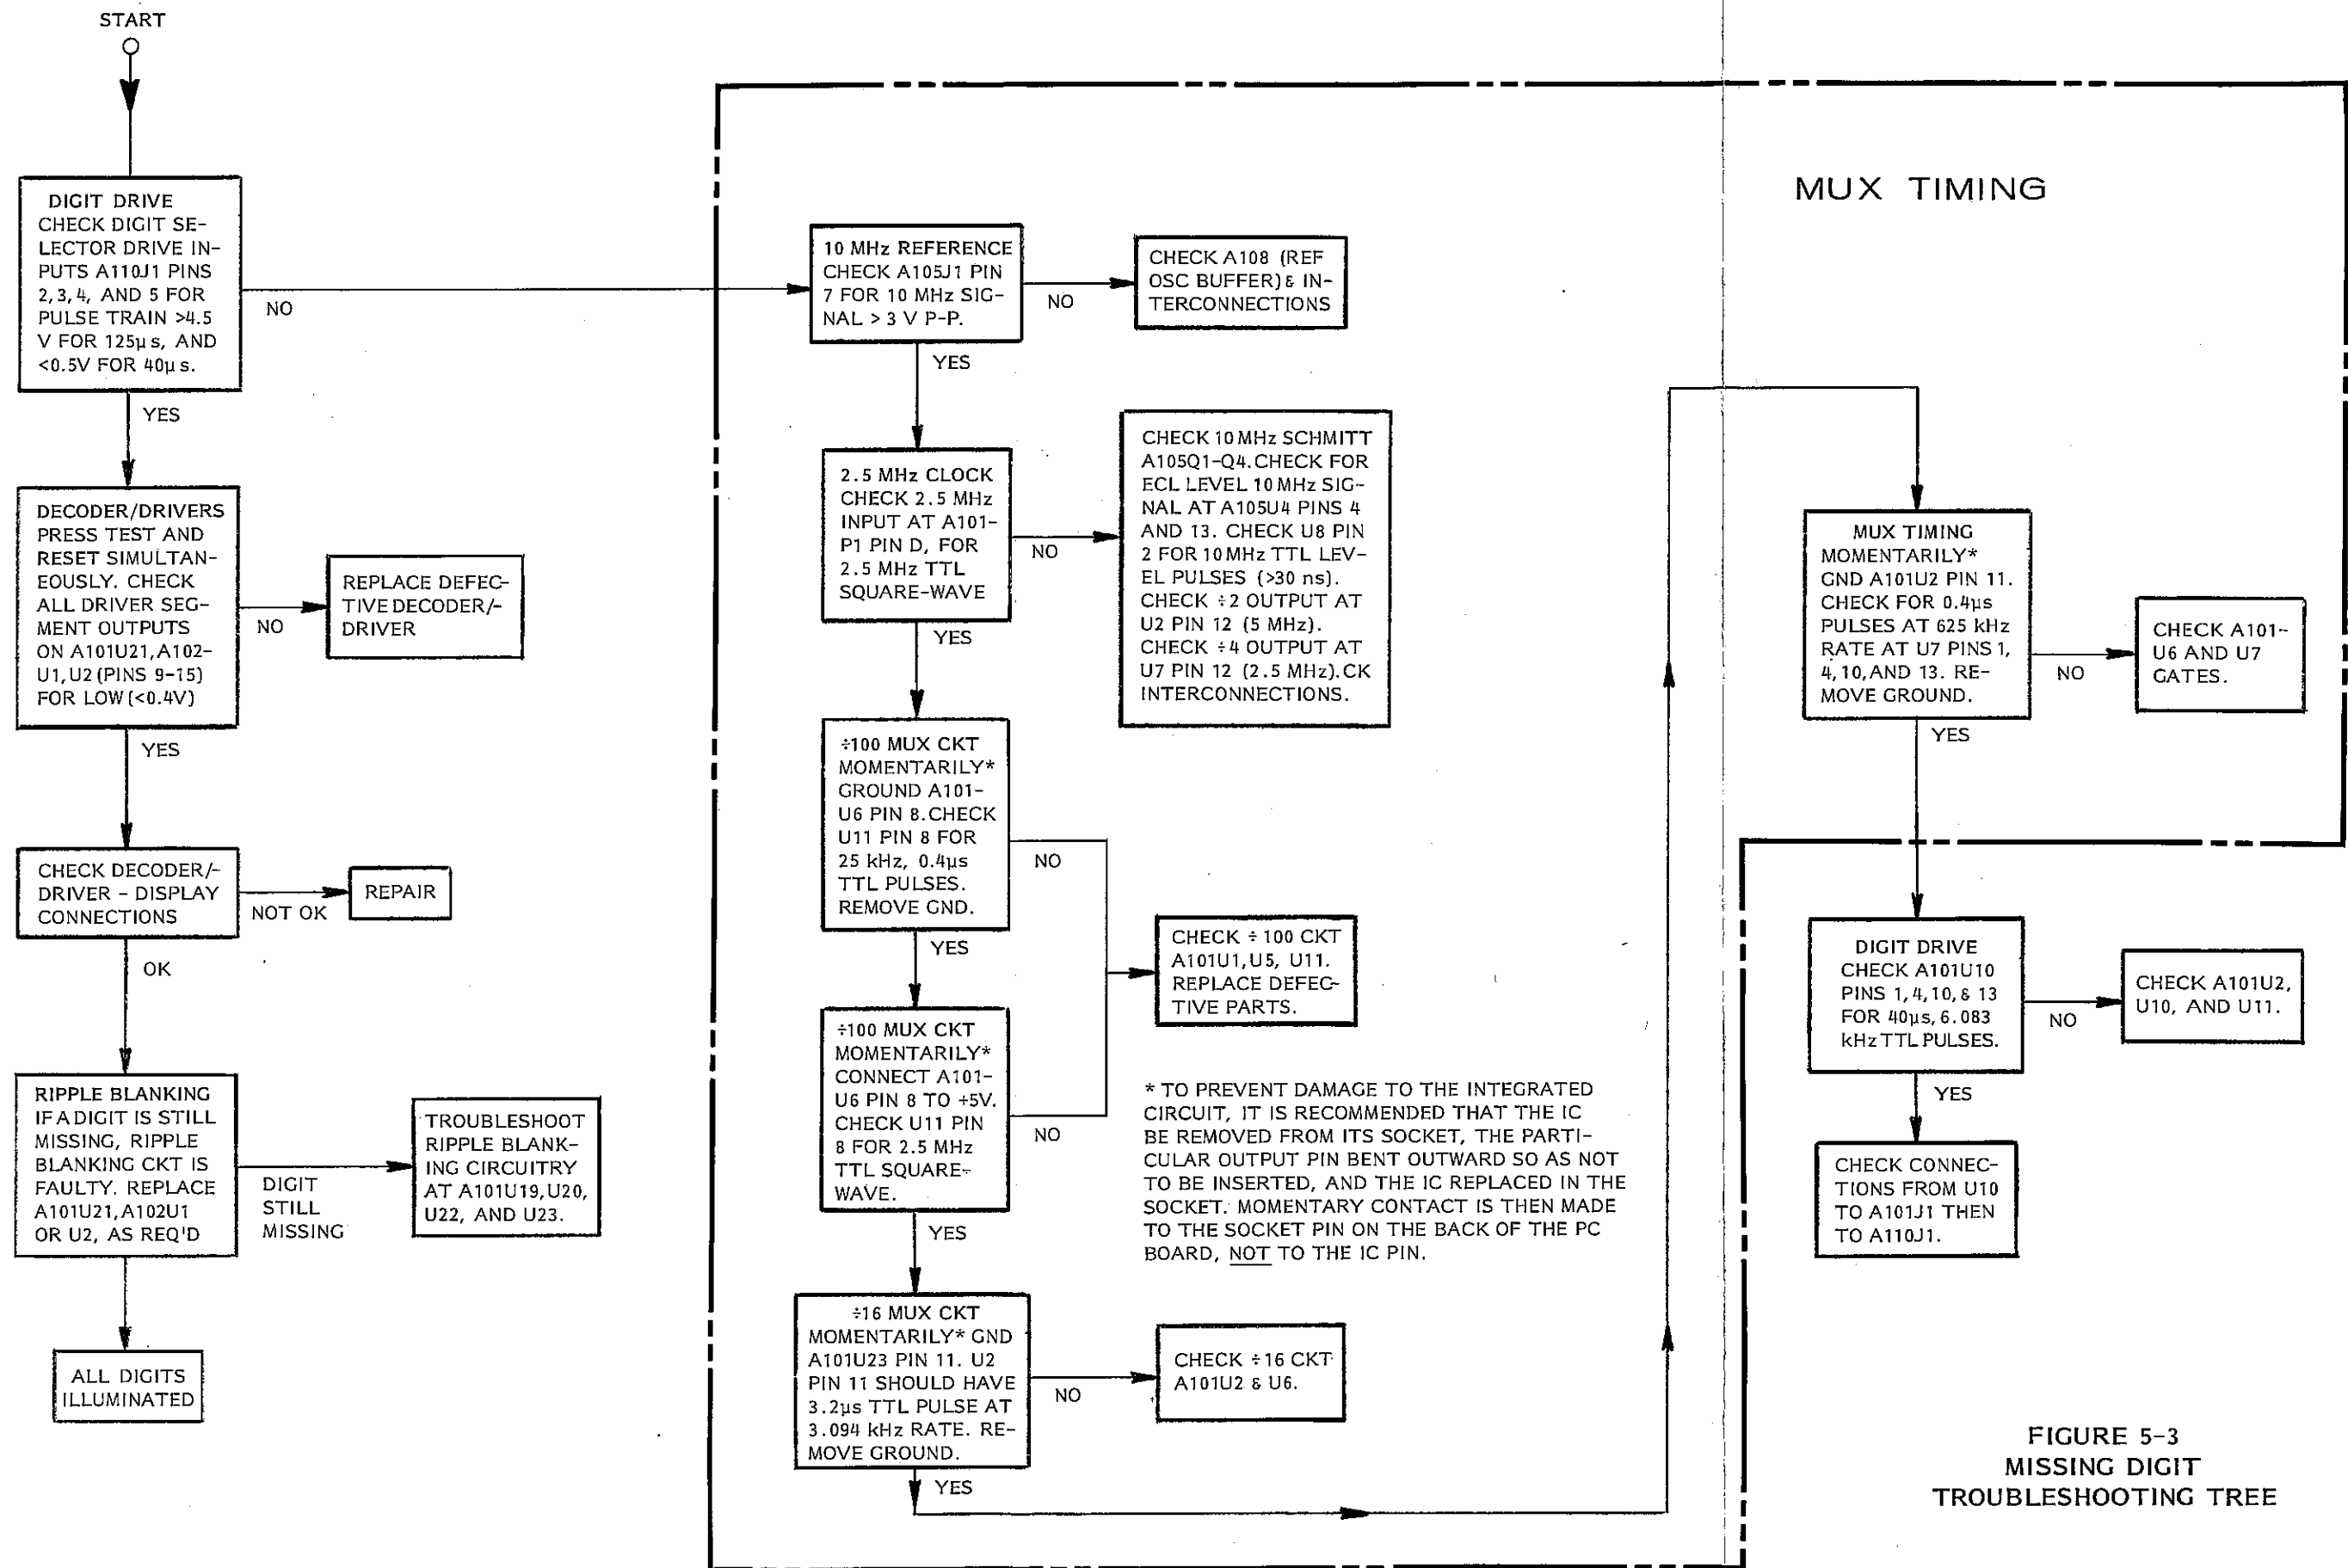
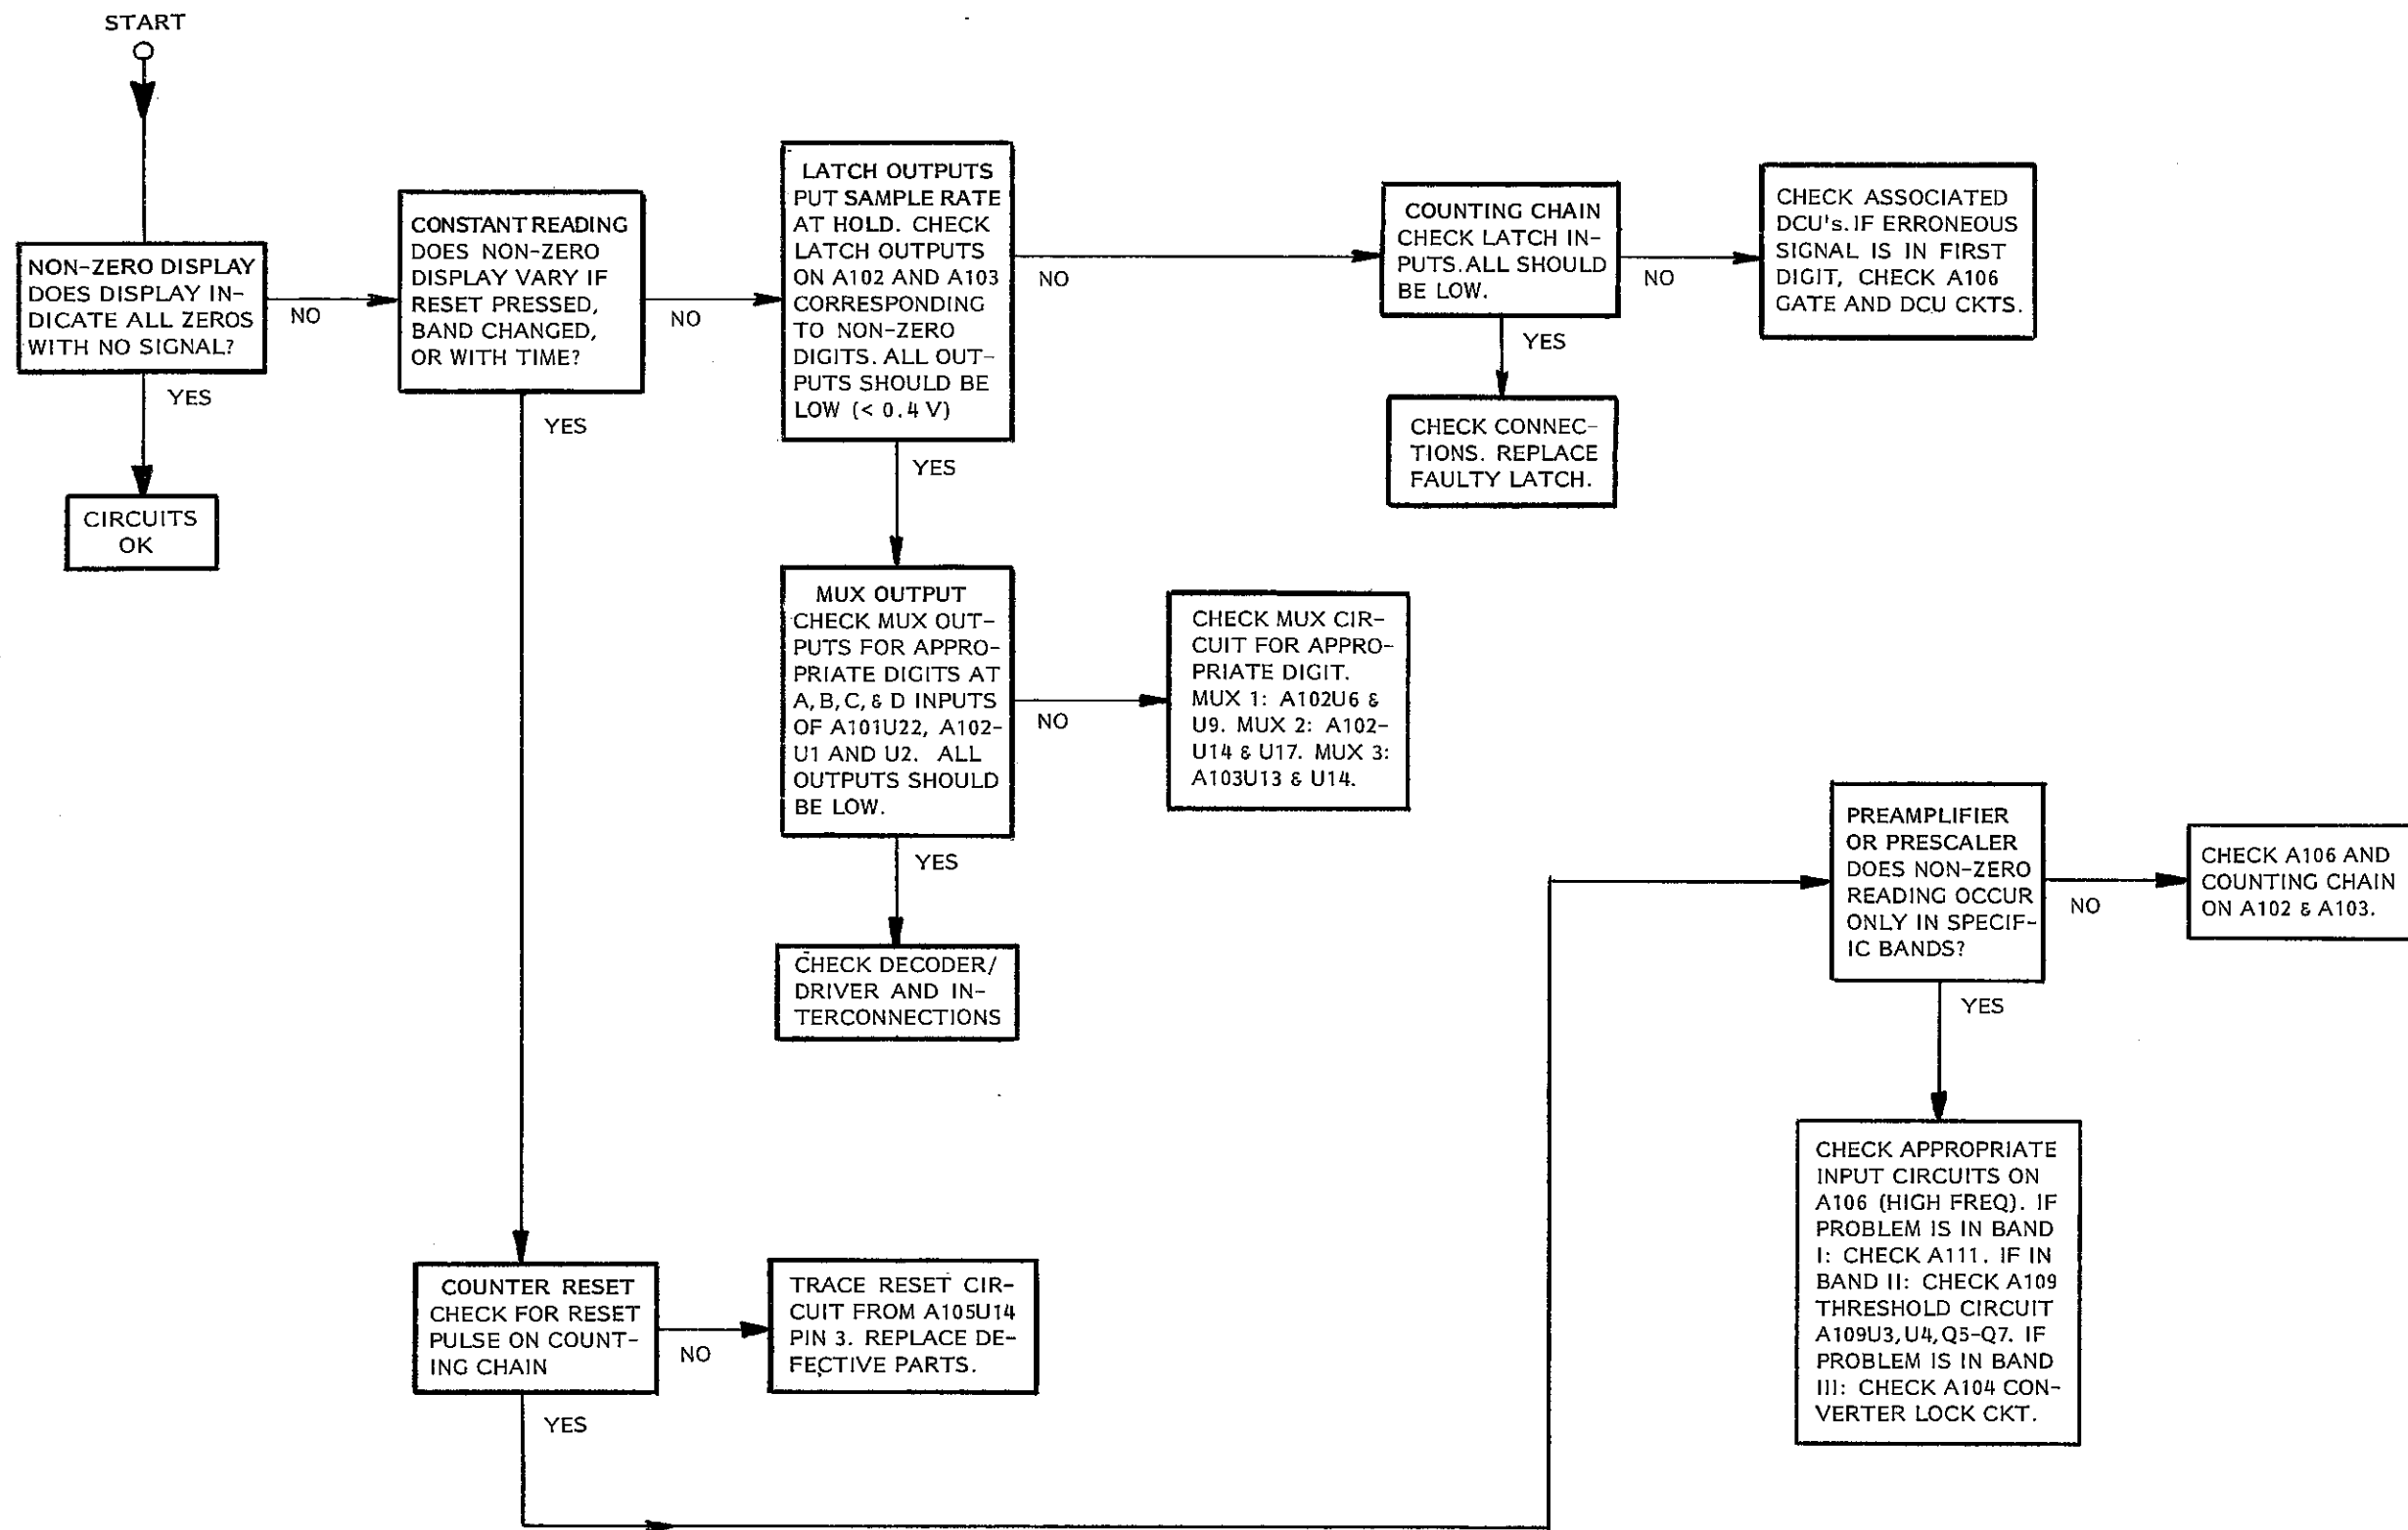

FIGURE 5-3
FIGURE 5-4
- f. If counter fails the Visual Display Test, refer to Troubleshooting Tree - Figure 5-2. If counter displays all eights but a digit is missing, refer to Figure 5-3. If the display does not show all zeros when it should, refer to Figure 5-4.